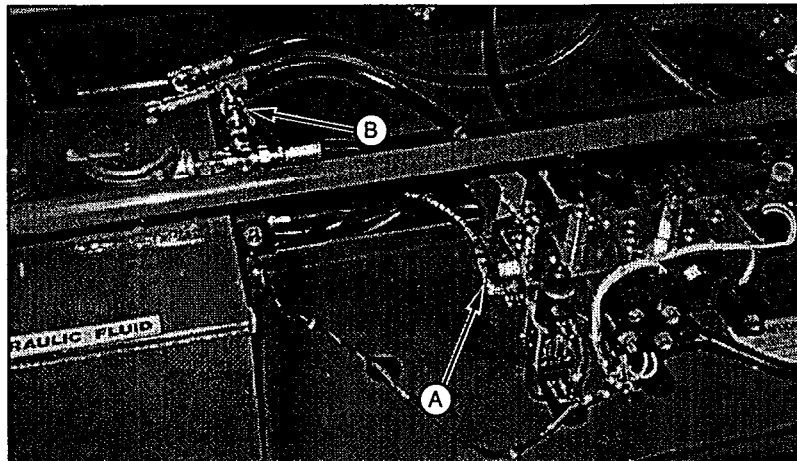

Figure 1
1. Exchange the front wheel motor relief hose connection (A) at the main valve block assembly with the axle cylinder vent hose (B) at the hydraulic reservoir as shown. See figure 1.